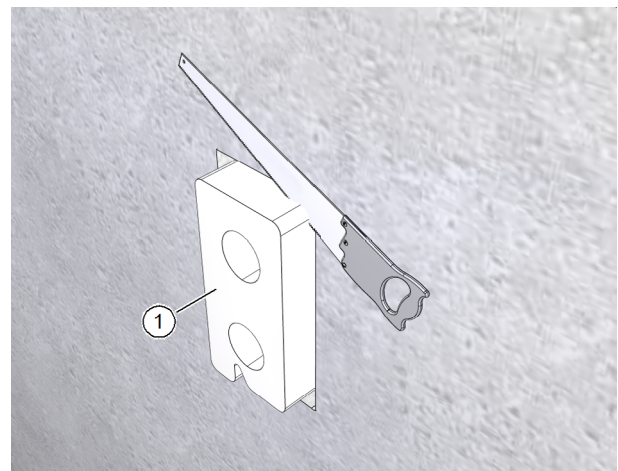
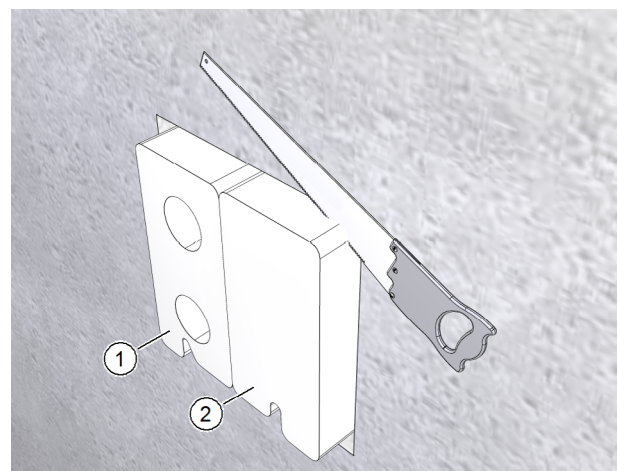

Fig. 16: Aligning the wall box **without** filler piece
Fig. 17: Aligning the wall box **with** filler piece
- ▶ Use a Styrofoam saw to cut off the excess wall box (item 1 in Fig. 16 and Fig. 17) and filler piece, if necessary (item 2 in Fig. 17), so that they are flush with the solid wall or any insulation.